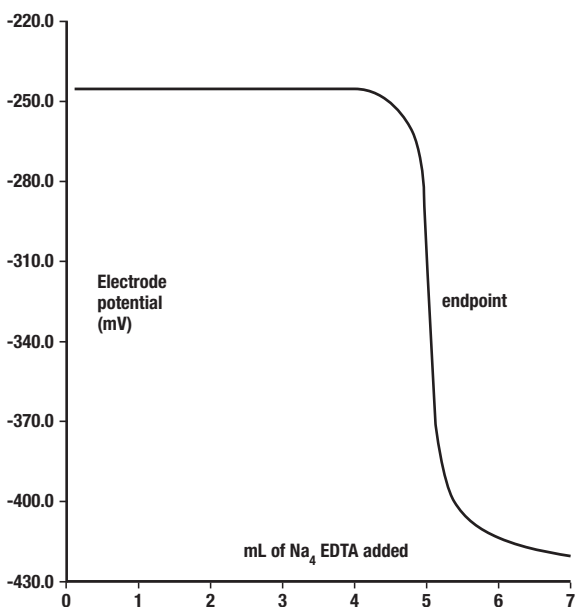

Figure 3: Typical Titration of 100 mL of  $5 \times 10^{-3}$  M  $\text{Cd}(\text{NO}_3)_2$  (pH Adjusted to ~10 with ammonia) with 0.1 M  $\text{Na}_4\text{EDTA}$
2. Using a 10 mL burette, add increments of titrant and plot the electrode potential against mL of titrant added. The endpoint is the point of greatest slope (inflection point). See **Figure 3**.